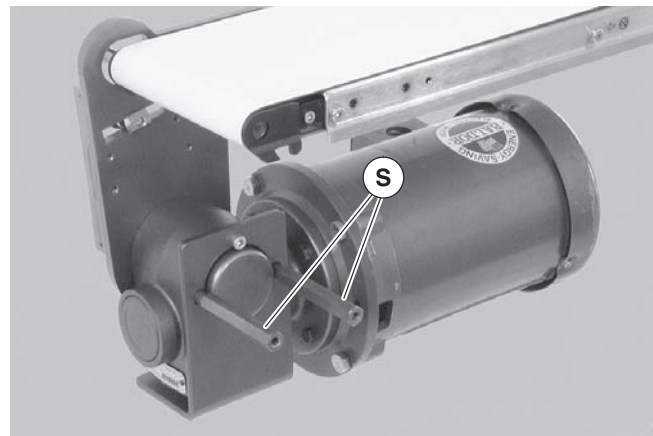

Figure 25
5. Remove hex support posts (Figure 25, item S).